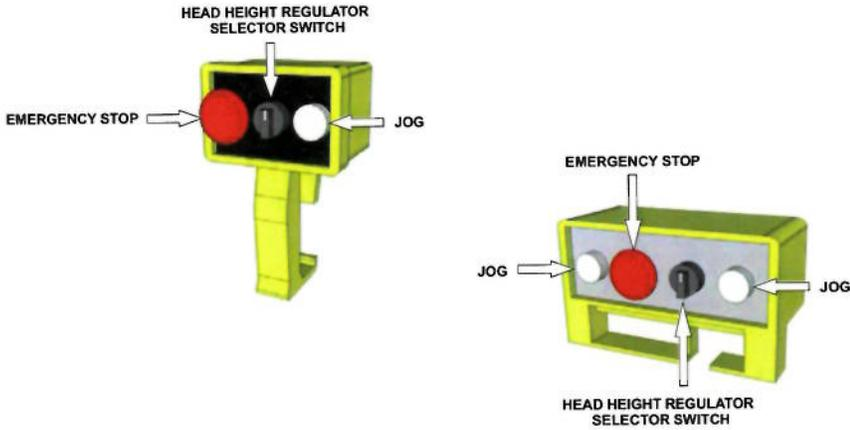

fig.1
The machine is equipped with a **mobile – jog keypad** (fig.1) for adjustment operations and maintenance. It is equipped with:
- The JOG button (which can also be double (fig.1); in this case the machine will advance only if both buttons are pressed at the same time)